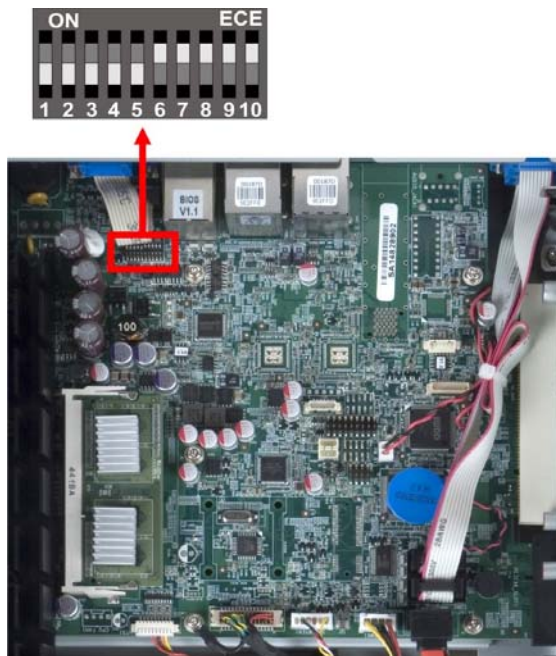

Figure 3-27: COM3 RS-232/422/485 Serial Port Select Switch Location
- Jumper Location:** See Figure 3-27
The COM3 RS-232/422/485 Serial Port Select jumper location is shown in **Figure 3-27**.